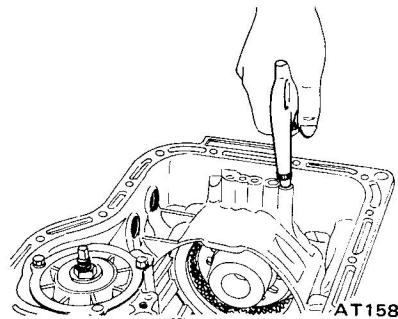

Fig. AT-90 Testing low & reverse brake
4. Blow under pressure air into oil hole in low & reverse brake to listen for definite brake operation as shown in Figure AT-90.